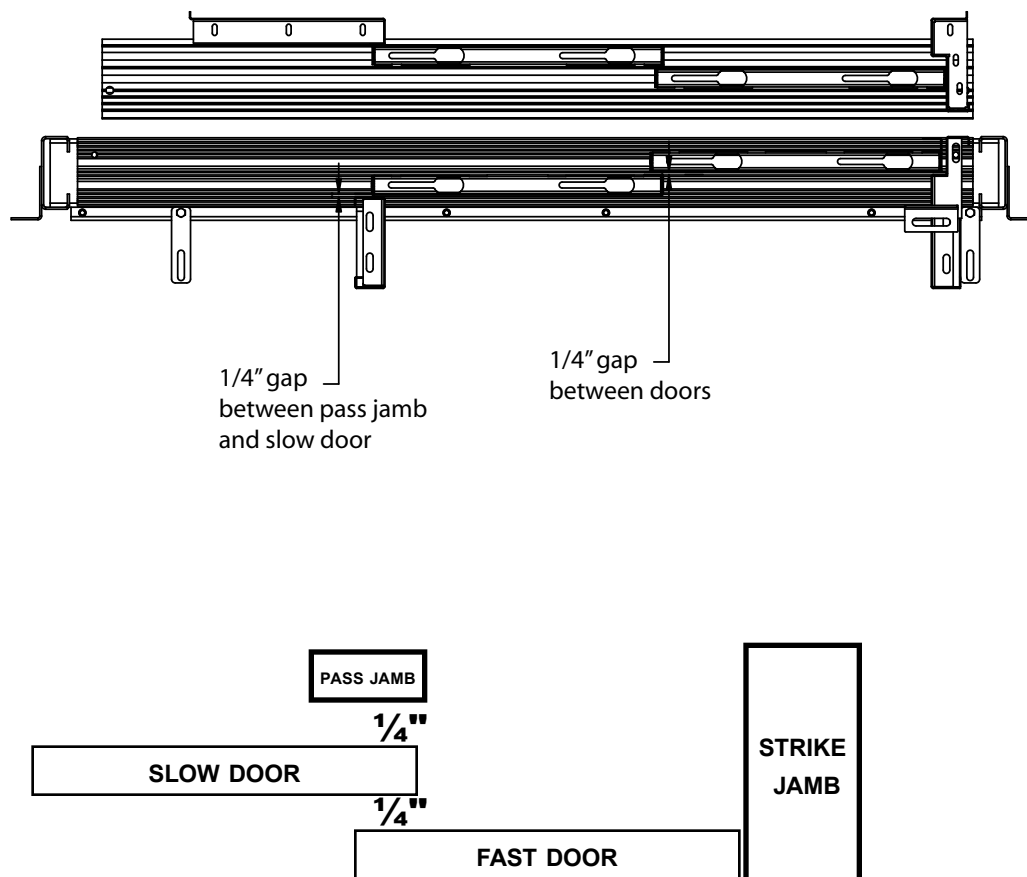

Figure 20 Gap Between Doors
4. Ensure there is a 1/4" gap between the slow and fast landing doors (Figure 20). Adjust as required to achieve the correct gap.
5. Ensure there is a 1/4" gap between the slow speed landing door and the pass jamb (Figure 20). Adjust as required to achieve the correct gap.